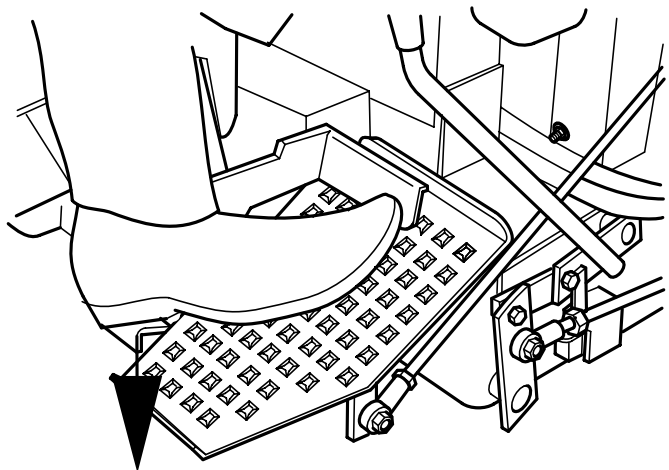

Figure 4-7 Backward (Reverse) Operation- Depress Heel End of Pedal
2. To travel backwards (reverse), depress the right foot pedal at the heel (See Figure 4-7). The further the pedal is depressed the faster the mower will travel backwards. Use slower traveling speed when traveling backwards and observe the area behind you before moving.